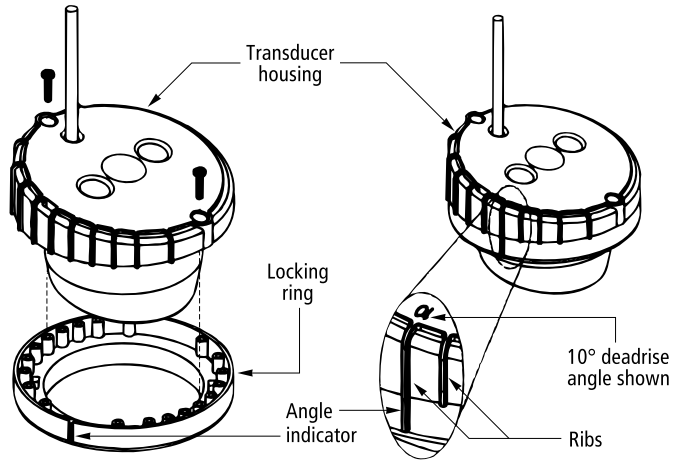

Figure 2-16: Joining the Transducer Housing to the Locking Ring
7. Slide the transducer housing into the locking ring. Turn the housing until the rib that most closely corresponds to the deadrise angle of your hull is aligned with the angle indicator on the locking ring. To secure the housing to the locking ring, insert two screws (see *Figure 2-16*). **Do not** overtighten the screws.
10. Lock the transducer assembly into the base by inserting the keys on the locking ring in the notches in the base. Press down and rotate clockwise until seated (see *Figure 2-16*).